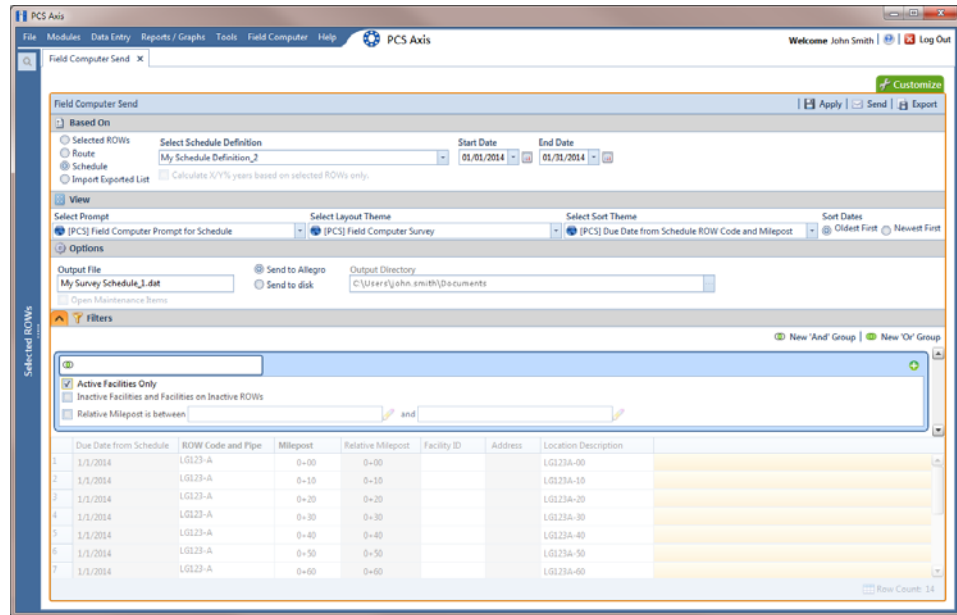

Figure 13-11. Filters
- 14** Click the  **Filters** button to open the *Filters* panel (Figure 13-11, page 573).